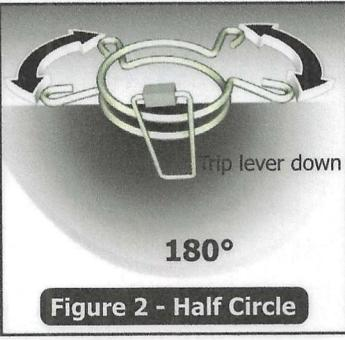

Figure 2 - Half Circle
**Part circle:** Flip trip lever down and adjust the sprinkler collars. The angle between the collar handles determines the arc the sprinkler will water (20° to 340°) (see **Figure 2** and **3**).